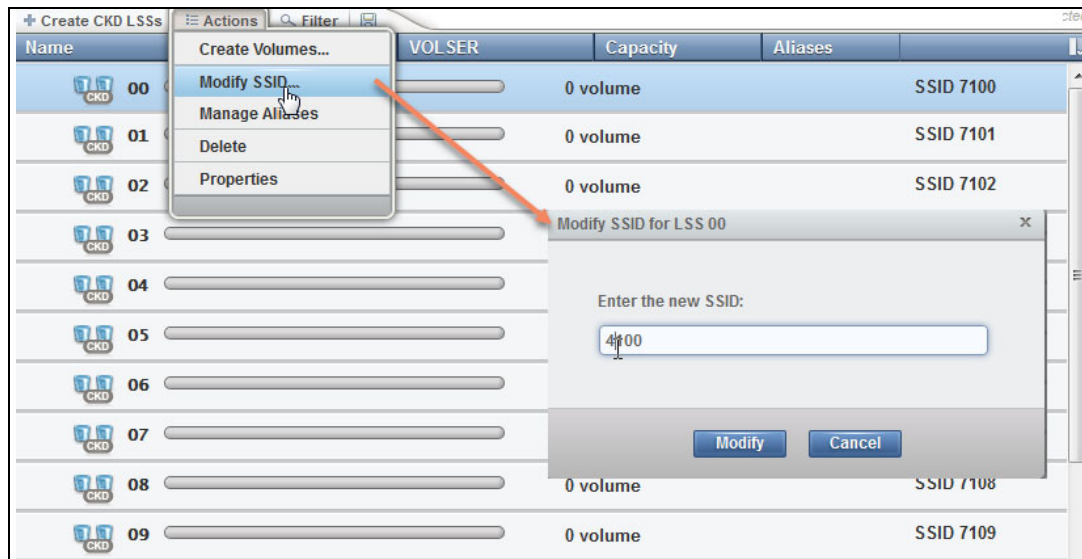

Figure 11-93 Modify the CKD LSS SSID
- The unique SSID for each LSS is automatically determined by combining the SSID prefix with the ID of the LSS. The SSID can be modified if needed as shown in Figure 11-93.